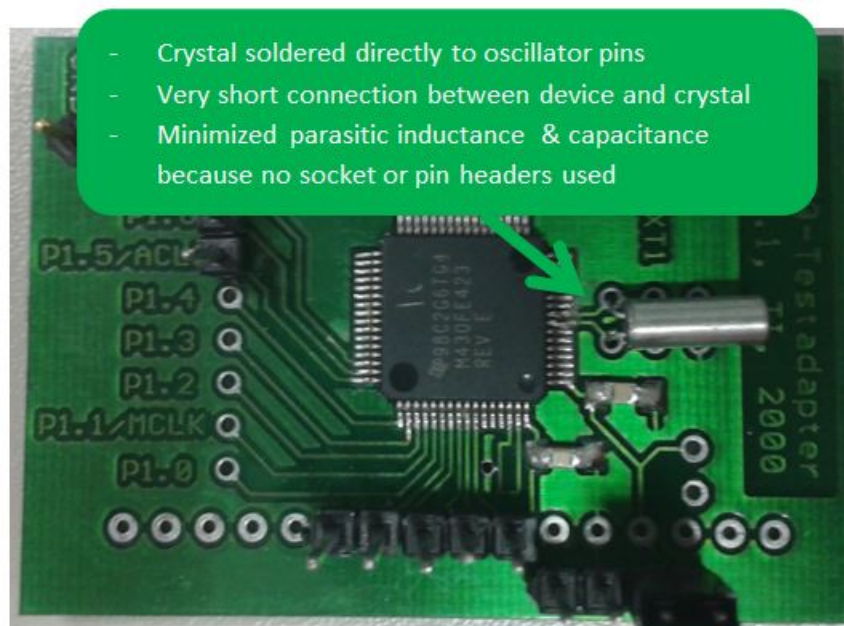

Figure 12. PCB Optimized for Low-Frequency Oscillator Measurements
2. The optimized board had the MSP device soldered on the PCB and the crystal placed as close as possible to it following the layout guidelines described in this document (see Figure 12). This was done to reduce the negative effect of PCB influence due to bad LFO layout.